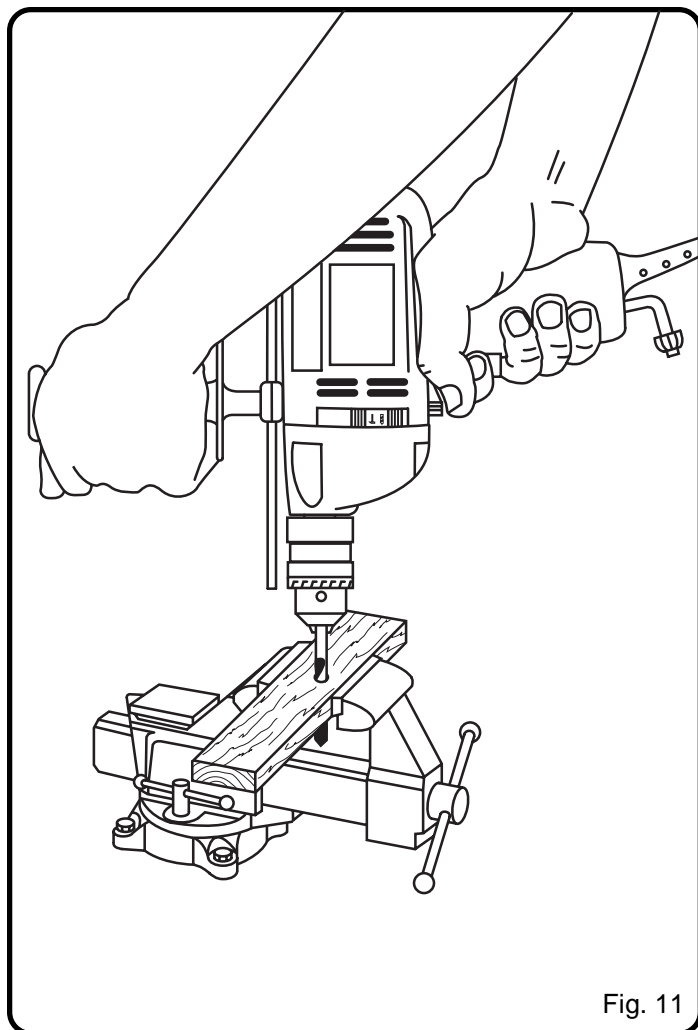

Fig. 11
See Figure 11.
7. Move the drill bit into the workpiece applying only enough pressure to keep the bit cutting. Do not force your drill or apply side pressure to elongate a hole. Let your drill and bit do the work. See Figure 11.